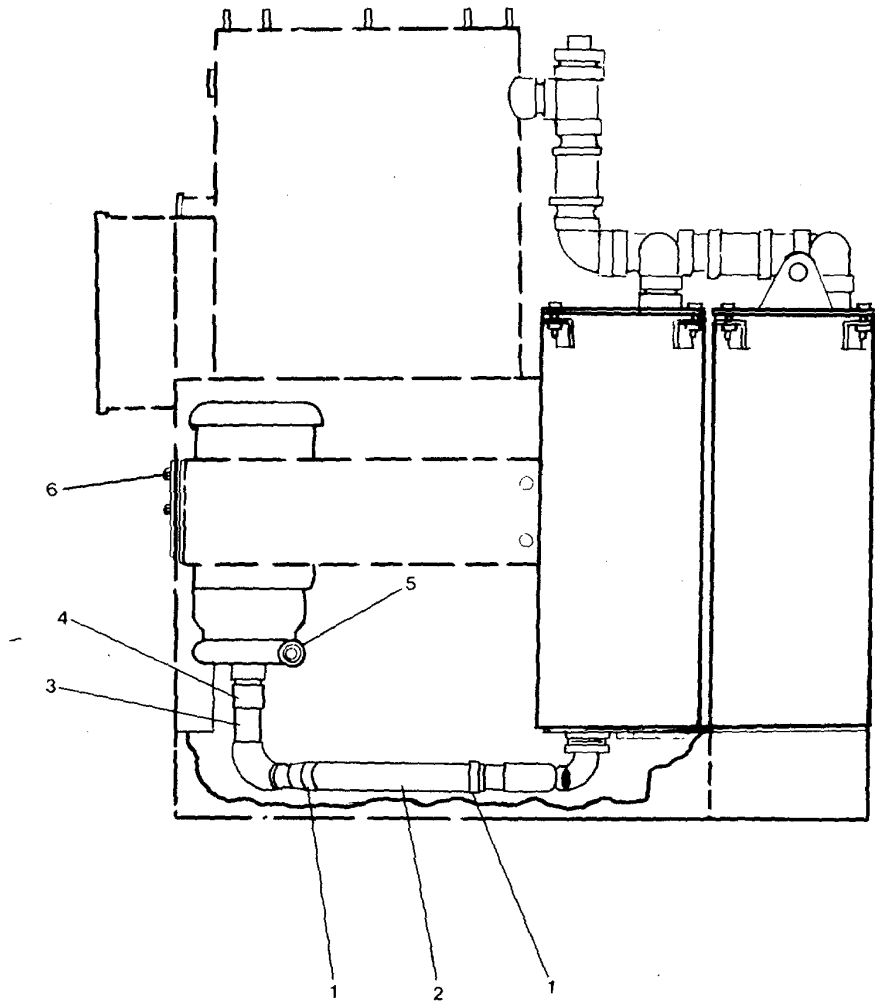

Figure 2-18. Discharge Pump System.
- c. Disconnect the discharge line from the pump (5, FIGURE 2-18).
- d. Loosen the clamps (1, FIGURE 2-18) and remove the hose (2). Place a shallow pan under the hose connections while disconnecting to catch any runoff.
- e. Remove the mounting screws, nuts, and washer (6, FIGURE 2-18) and remove the pump from the sanitary unit.
- b. Mount the pump and motor to its mounting plate on the sanitary unit with the four mounting screws (6, FIGURE 2-18).
- (1) Apply teflon lubricant to the pipe threads.
- (2) Screw the connections into their proper locations. Tighten the connections until snug.
- (3) Make sure the connections are aligned with their respective hose connections.
- d. Install the inlet hose (2, FIGURE 2-18) and tighten the clamps (1). Tighten to 40 in-lb.
- e. Connect the discharge line (5, FIGURE 2-18).
- (1) Sewage inlet and outlet.
- (2) Bleach metering.
- (3) Backwash water supply.